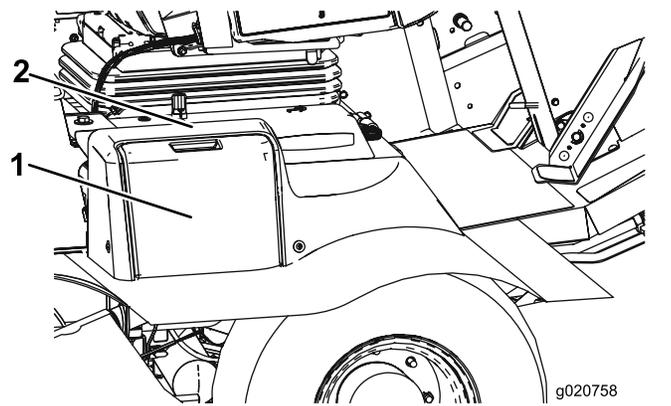

Figure 59
1. Open the battery cover on the side of the shroud (Figure 59).
Note: Press down on the flat surface above the battery cover to ease the removal of the cover (Figure 59).